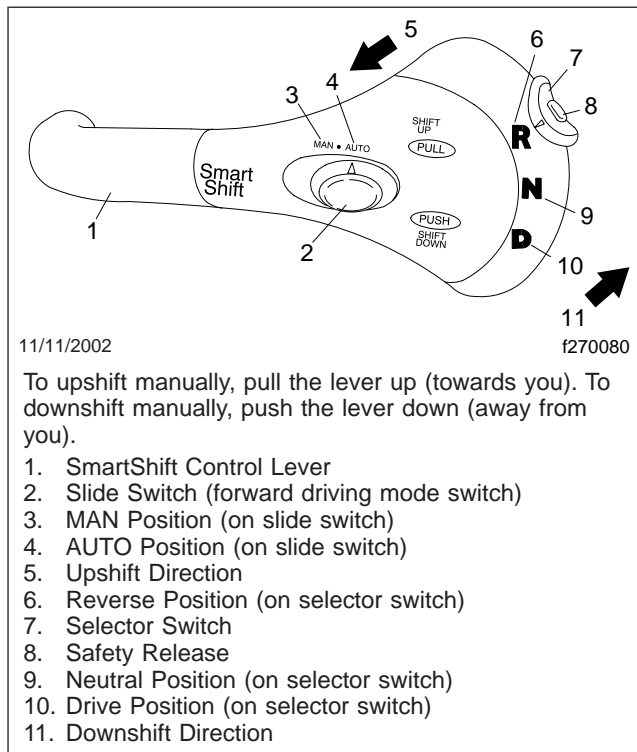

Fig. 8.13, SmartShift Controller (FreedomLine custom version)
1. With the parking brake engaged and/or the brake pedal pressed down, select neutral (N) by pressing in the safety release and moving the selector switch to the center position. See **Fig. 8.13**.
3. With air pressure built up, select drive (D) by pressing in the safety release and moving the selector switch downward to the position below neutral. Release the parking brake and/or pedal.